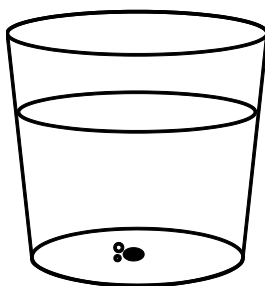

Figure 2. Disk at bottom of cup
6. Use forceps to place the disk on the bottom of the cup with the hydrogen peroxide (Figure 2). Begin timing as soon as the disk touches the surface of the hydrogen peroxide.